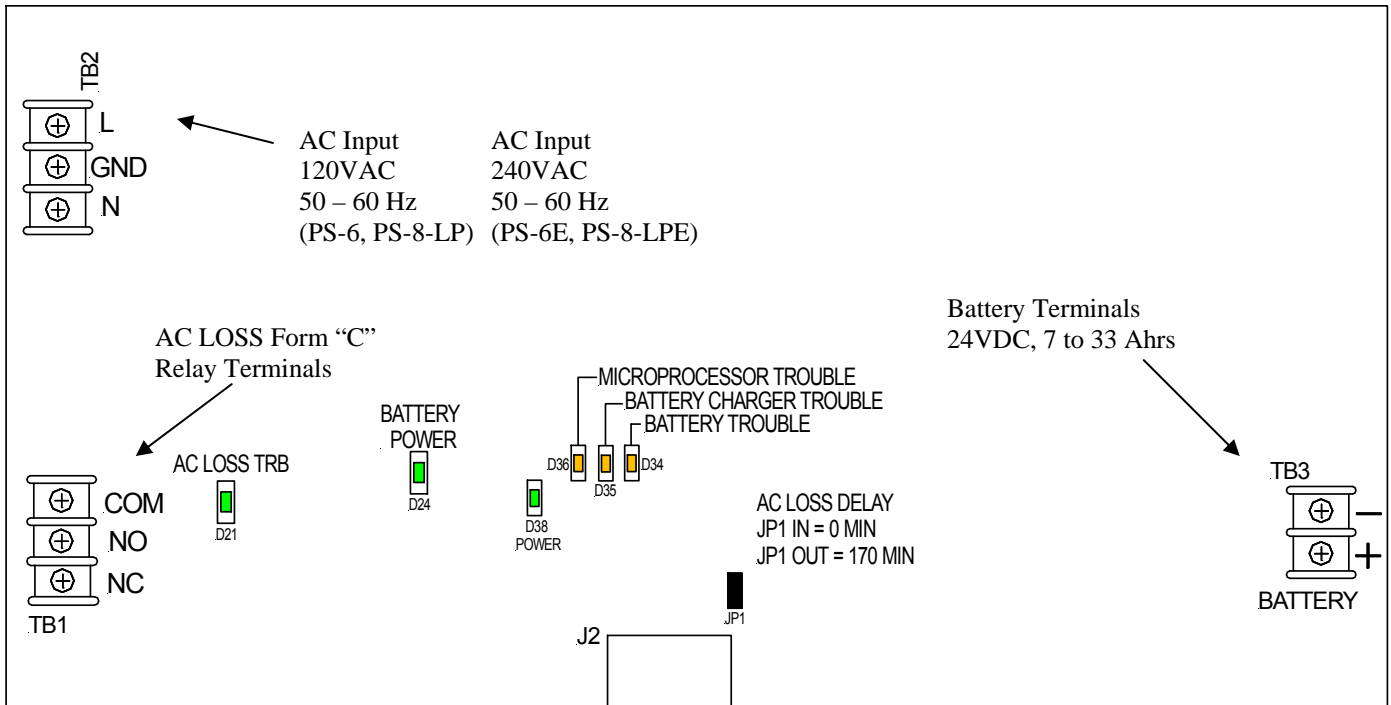
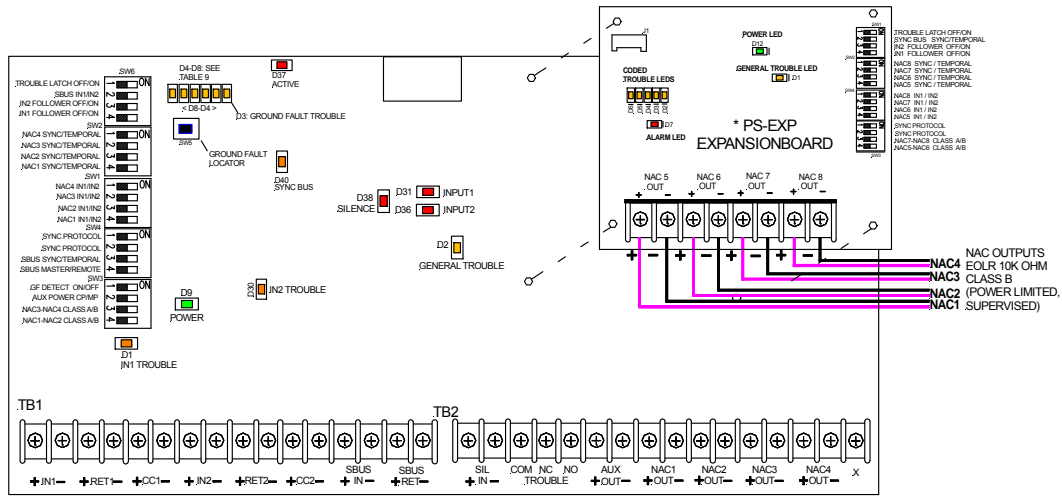

Figure 4: Power Supply/Battery Charger PC Board
Figure 6: Control PC Board
Review the Operation Section (4.0) in order to select the proper hook-up and use of the **POWERPATH**. Set switches and wire the **POWERPATH** as follows: Terminal locations for the Power Supply/Battery Charger PC board are shown in Figure 4. Terminal locations for the Control PC board are shown in Figure 6.
Refer to Figure 6 for the locations of the terminals described in Table 2.
- C. Connect notification appliances to desired outputs OUT1 – OUT4. See Figure 6.
Refer to Figure 6 for the location and setting of the DIP switches on the Control PC board.